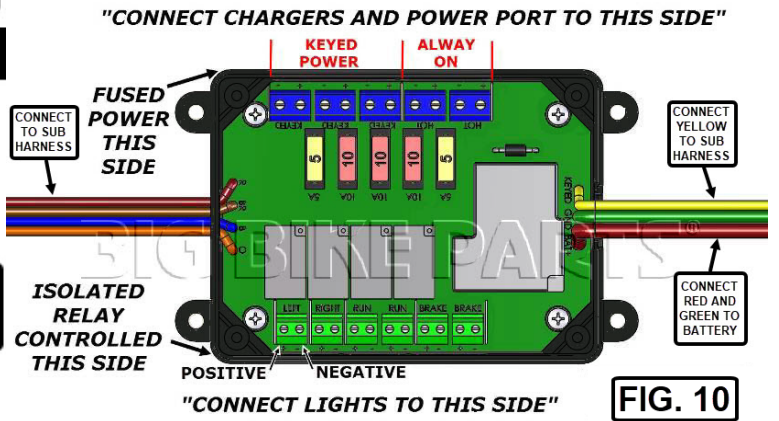

FIG. 10
17. RUN THE 4 WIRES FROM THE LEFT SIDE AND THE YELLOW WIRE FROM THE RIGHT SIDE OF THE ISOLATOR BOX TO THE END OF THE HARNESS FROM STEP 12 (**FIG. 10**). *USE WIRE TIES TO SECURE AS NEEDED.(BE SURE WIRES DO NO INTERFERE WITH MOVING OR HOT COMPONENTS)*
19. USE THE BLUE WIRE SPLICES SUPPLIED TO CONNECT THE FIVE WIRES FROM STEP 17 TO THE ACCESSORY SUB-HARNESS (**FIG. 10**). MATCH THE CORRESPONDING COLORED WIRES FROM THE ISOLATOR BOX TO THE SUB-HARNESS WHEN SPLICING. **NOTE: TRIM WIRES FROM THE ISOLATOR BOX TO DESIRED LENGTH BEFORE SPLICING. DO NOT CUT WIRES FROM ACCESSORY SUB-HARNESS OR REMOVE END CAPS ON THE WIRES.**
29. USING **FIG. 10** AS A GUIDE TO LEARN WHAT EACH TERMINAL CONNECTOR IS TO BE USED WHEN ATTACHING ACCESSORIES. **NOTE: THE ISOLATOR BOX COVER ALSO HAS A DIAGRAM FOR THE TERMINAL BLOCKS.**